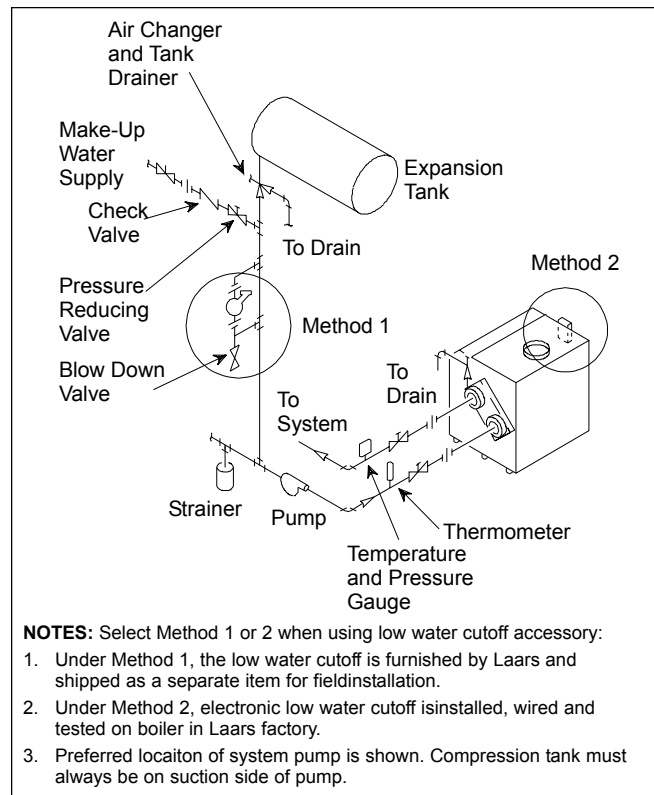

Figure 7. Boiler Piping.
3. Provide a boiler installed above radiation level with a low water cutoff device either as part of the boiler or at the time of boiler installation (see Figure 7).